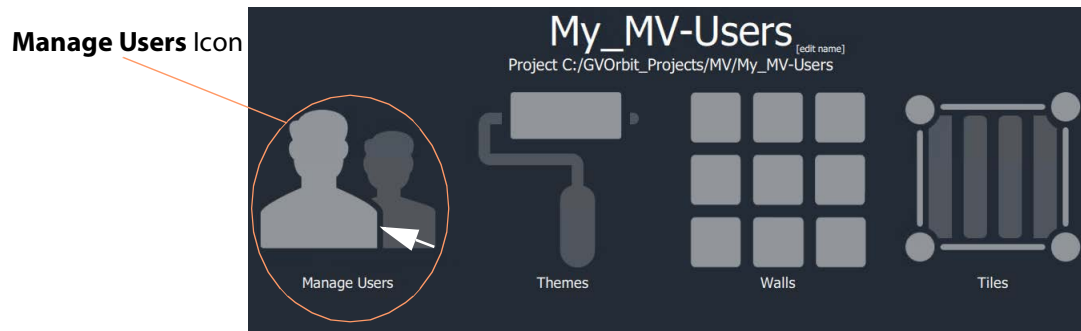

Fig. 4-2: Manage Users icon on Home Screen
The **Manage Users** tab is opened. See Figure 4-2 on page 148.
- 3 Click on the large **Manage Users** icon. See Figure 4-2.